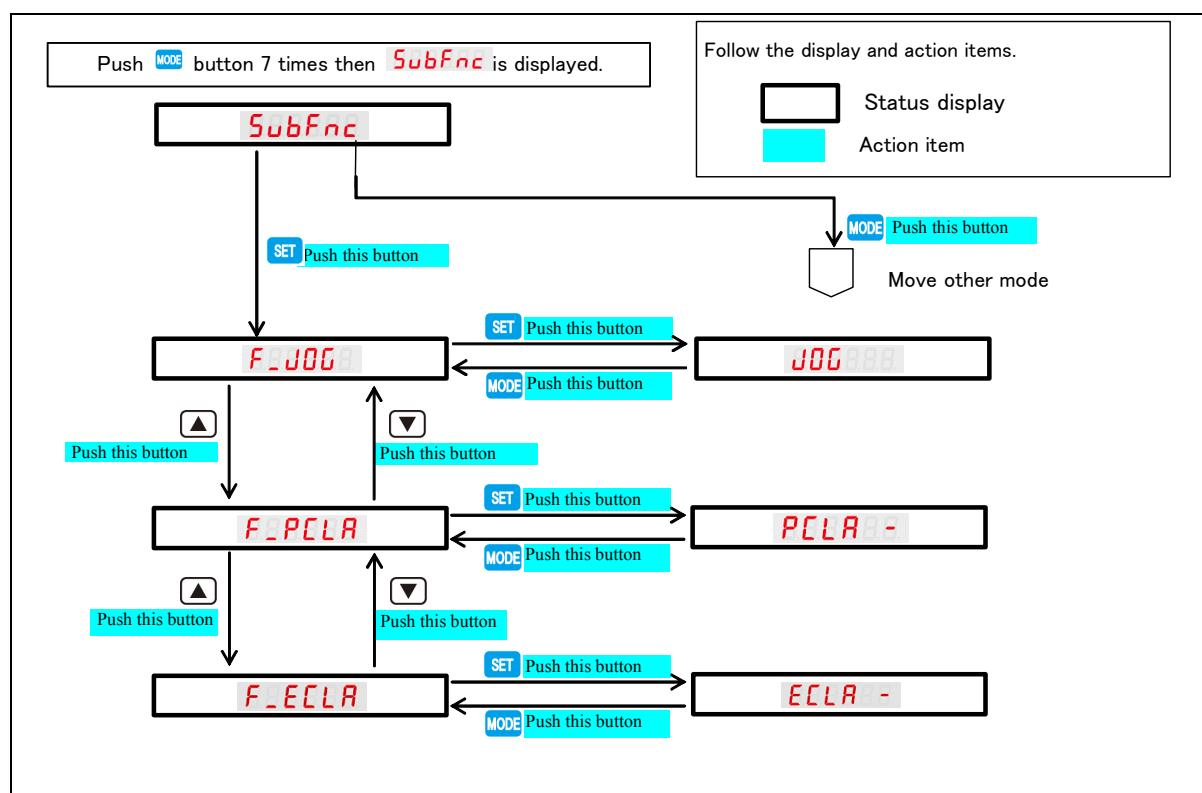

Figure 4-9-1 Operation Flowchart for Auxiliary Function Mode on Setup Panel
Follow the operation flow shown in Figure 4-9-1.
- Follow Fig.4-9-1 “Operation Flowchart for Auxiliary Function Mode” and display **F_JOG**
1. Follow Fig.4-9-1 Operation Flowchart of Auxiliary Function Mode and display **F_PCLA**.